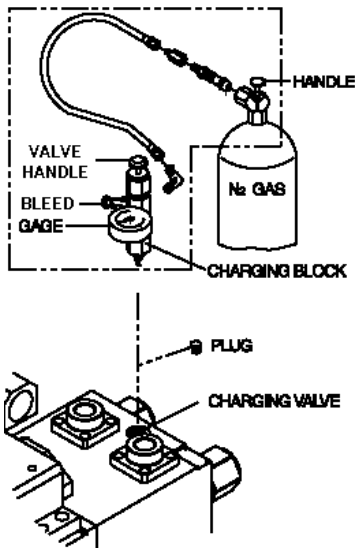

Fig. 12-1 N2 Gas Charge in Back Head
Read, understand and follow all instructions for the safe and proper use of this tool. These instructions were prepared to assist the qualified technician with the information necessary for measuring/filling the back head (figure 12-1). The following procedures are accomplished with the use of the N2 charging unit, part number 575427, and a commercially available bottle of nitrogen. Refer to the list of “Tools Required” for other tools needed.
- Charge Kit 575427 (Fig. 12-1)
#### 12.2.2 Connecting the Charge Tool (Fig. 12-1)